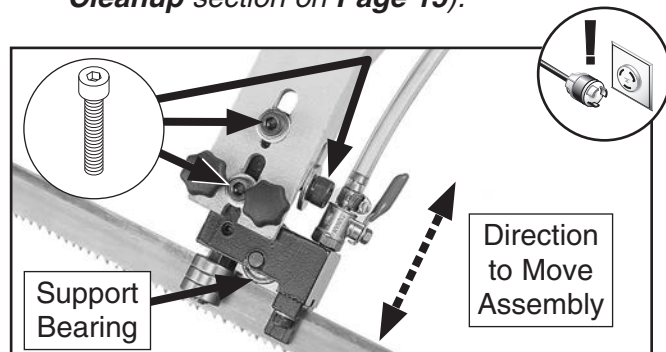
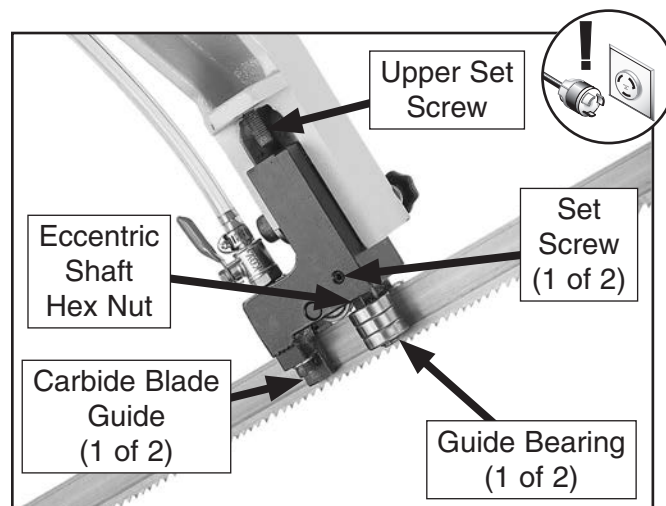

Figure 82. Support bearing touching blade.
Figure 83. Adjustment controls on right front blade guide.
— If it does not, loosen cap screws on blade guide arm, (see **Figure 82**), adjust upper set screw (see **Figure 83**), and move assembly up or down until support bearing lightly touches back of blade, then tighten cap screws.
2. Loosen set screws shown in **Figure 83** to allow guide bearings on front blade guide arm to turn.
3. Turn hex nut on each eccentric shaft. Adjust guide bearings (see **Figure 83**) so they lightly contact blade or have maximum clearance of 0.002".
5. Adjust carbide blade guides (see **Figure 83**) so they make same contact with blade as guide bearings.